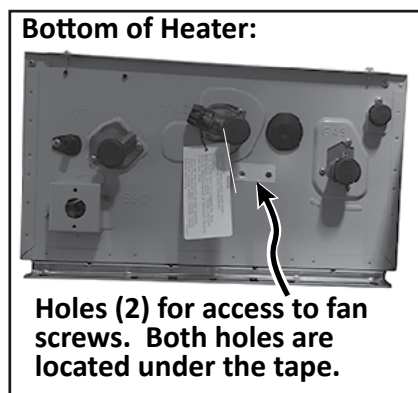

Figure 31.
- 8.1.1 Remove the two Phillips/hex head screws pointing down from the fan using an 8" long, #2 Phillips head screw driver. There are 2 holes in the case directly below the screws to put the screw driver through (Figure 31).